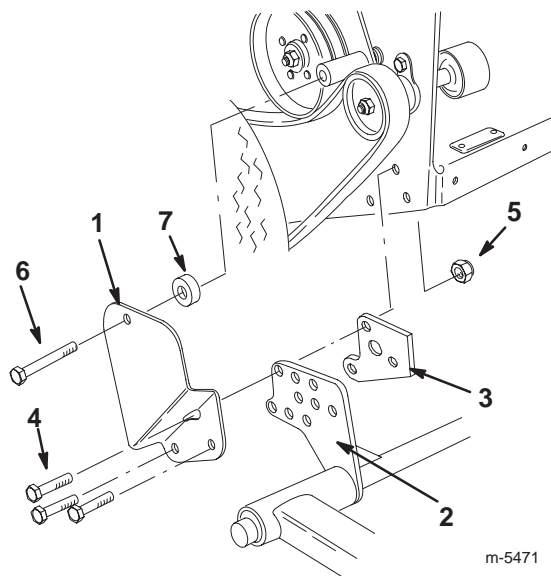

Figure 4
- Remove the 4 bolts and nuts securing the bottom of the two pulley guards on the sides of the frame (2 bolts and nuts on each side) (Fig. 4).
- Remove the long bolt and nut securing the top of each pulley guard (Fig. 4) and discard the bolt.
- Insert the axle mounting brackets between the pulley guards and the frame (Fig. 4).
- Insert the large spacers between the axle mounting brackets and the frame, lining up the holes (Fig. 4).
- Using the 6 bolts (3/8 x 1-3/8 in.) and locknuts (3/8 in.) supplied with the sulky, secure the bottom of the pulley guards, the axle, and the spacers as illustrated in Figure 4.
- Slide the small spacers between the top of the pulley guards and the mounting tube on the frame, and secure them using 2 bolts (3/8 x 4-1/2 in.) and the nuts removed in step 3 (Fig. 4).